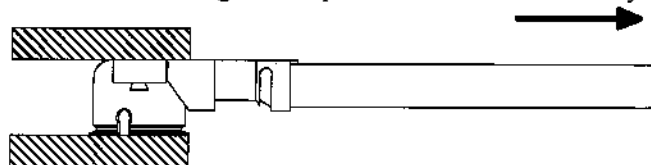

Fig 5
A. Testing : Pull the cable as shown in Fig.5 at a speed  $25 \pm 3$ mm/minutes by tensile strength machine.